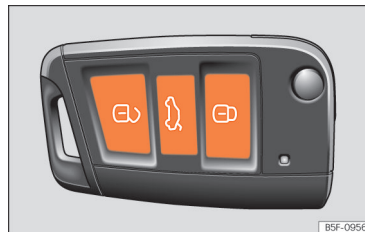

Fig. 49 Remote control key: keys.
- Lock: press the  button >>> **Fig. 49.**